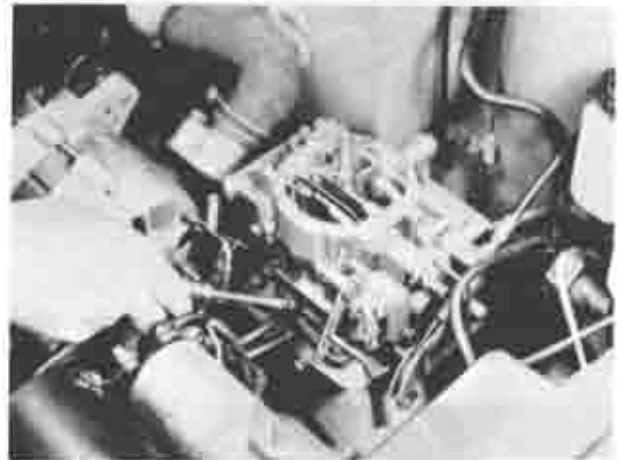

Fig. 4-14 Adjusting idle
1. Adjust the idle adjusting screw until the smooth idling is obtained. When the idle adjusting screw is screwed in, the mixture of fuel and air becomes lean. When the screw is loosened, the mixture becomes rich. (Refer to Fig. 4-14).